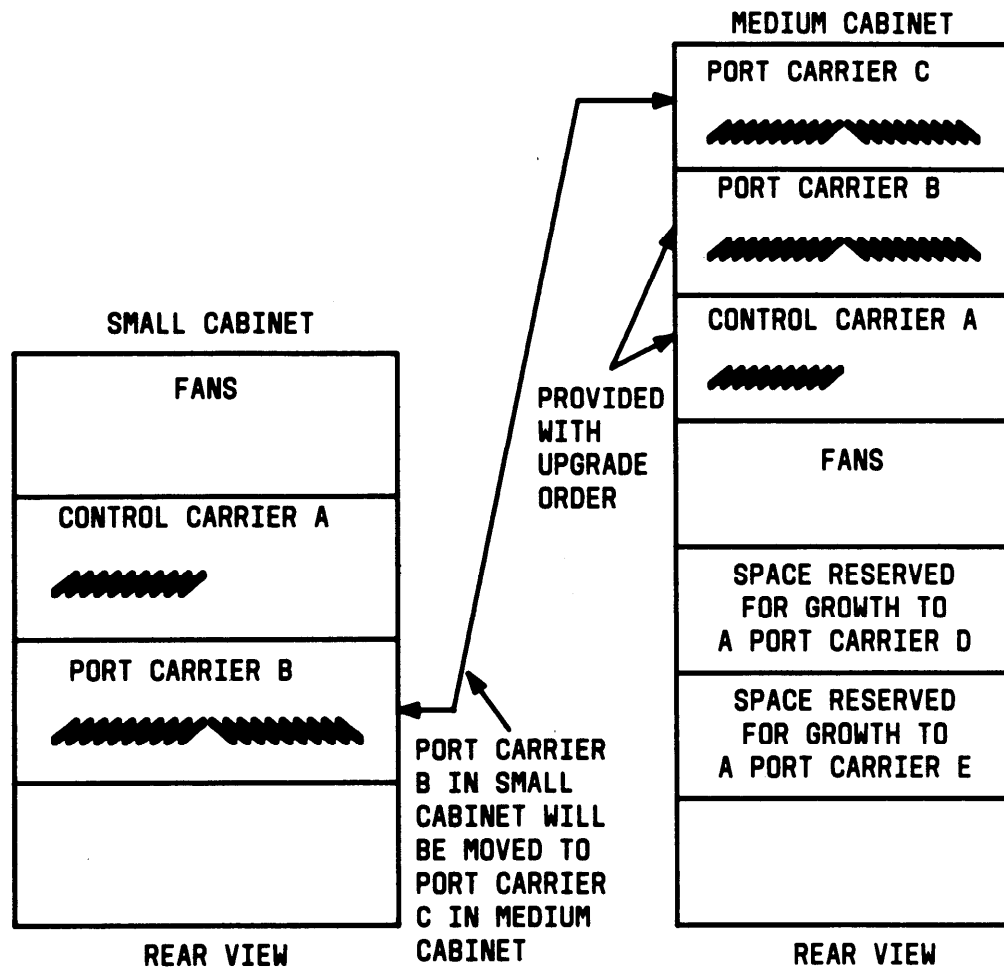

Figure 13. Small Cabinet and Medium Cabinet Carrier Layouts
2. Check to see that the connecting cables on the small cabinet have enough slack (length) to reach the carrier connectors of the medium cabinet (Figure 13). The port carrier and control carrier A of the small cabinet are at the bottom of the small cabinet. The port carrier and control carrier A of the medium cabinet are at the upper portion of the cabinet. If cables are not long enough, 25-pair extender cables will be required.